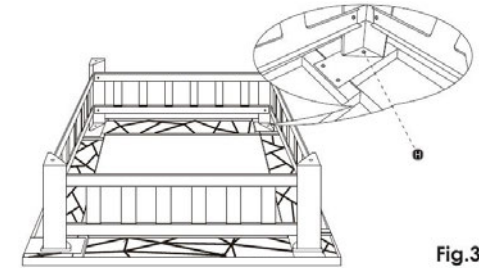

Fig.3
**Step 3)** Attach Legs (B) to Top Frame (A) with Bolts (H) Hand tighten (View Fig.3)!